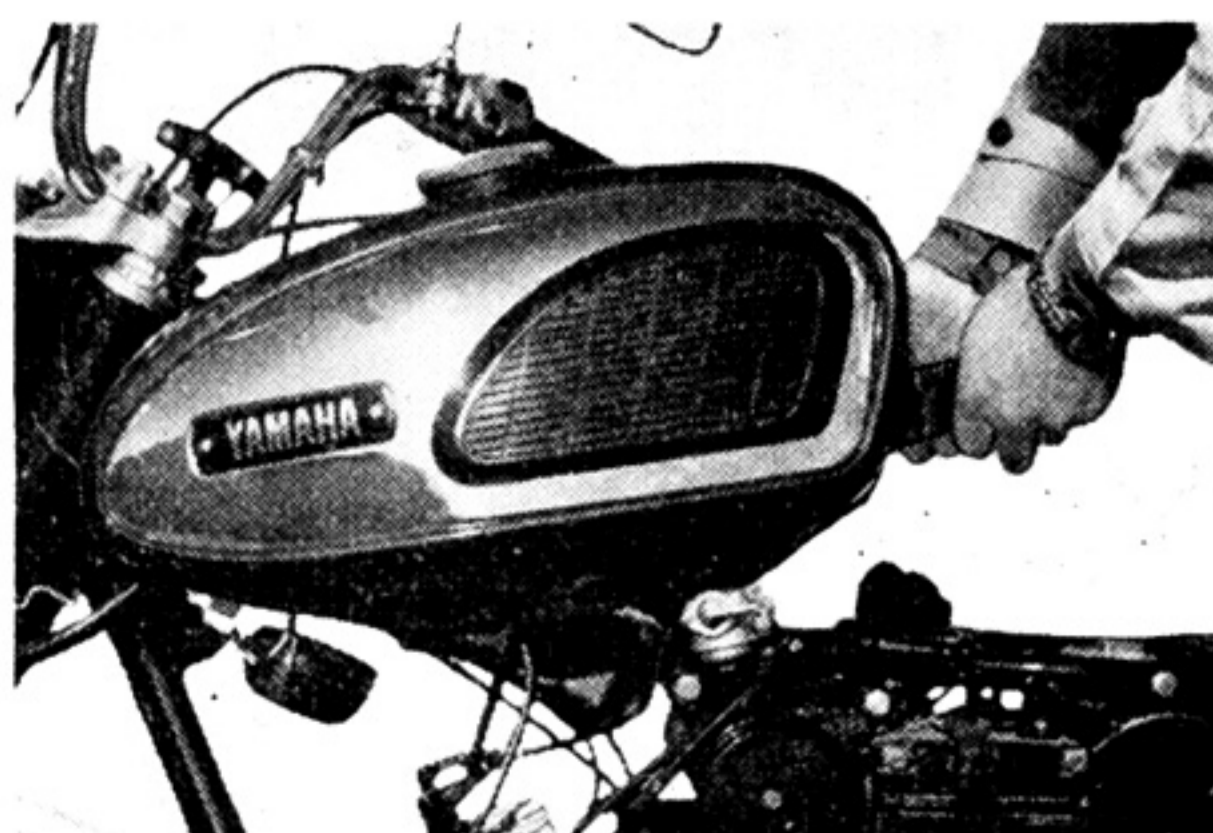

Fig. 4-4-5
- 1) Remove the tank mounting bolt. (Fig. 4-4-5)
- 2) Raise the rear part of the tank, and slide it rearward. Then remove the tank. (Fig. 4-4-5)